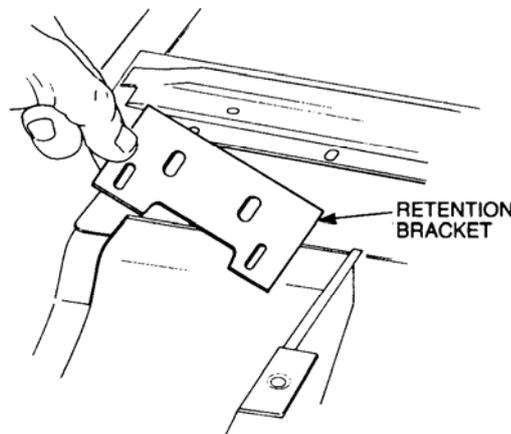

Figure 34 Quarter Window Retaining Bracket
- ss. Remove the nuts, washers and screws securing the quarter window retention bracket to the frame (refer Figure 34).
- i.** Install the quarter window retaining bracket (refer Figure 34).